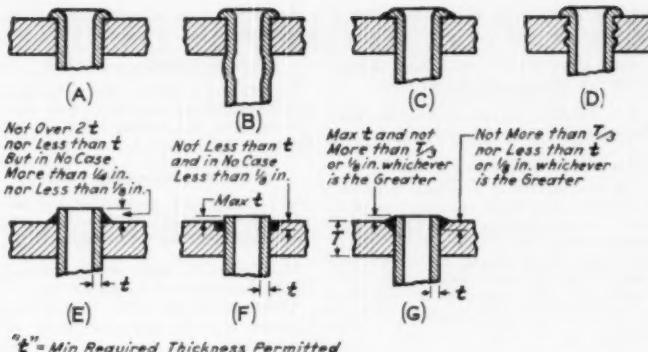

FIG. P-31 ACCEPTABLE FORMS OF TUBE ATTACHMENT ON FIRE-TUBE BOILERS
(1) The tube [ends extend not less than $\frac{1}{8}$ in., nor more than $\frac{1}{16}$ in., through the tube sheet:] SHEET HOLE MAY BE BEVELLED OR RECESS TO A DEPTH AT LEAST EQUAL TO THE THICKNESS OF THE TUBE. WHERE THE HOLE IS BEVELLED OR RECESS, THE PROJECTION OF THE TUBE BEYOND THE TUBE SHEET SHALL NOT EXCEED A DISTANCE EQUAL TO THE TUBE THICKNESS. THE DEPTH OF ANY BEVEL OR RECESS SHALL NOT BE LESS THAN THE TUBE THICKNESS NOR MORE THAN ONE-THIRD OF THE TUBE SHEET THICKNESS. [See FIG. P-31(f), (g).]
(2) [The throat of the seal weld is not less than $\frac{1}{16}$ in., nor more than $\frac{1}{16}$ in.] WHERE NO BEVEL OR RECESS IS EMPLOYED THE TUBE SHALL EXTEND BEYOND THE TUBE SHEET NOT LESS THAN A DISTANCE EQUAL TO THE TUBE THICKNESS, NOR MORE THAN TWICE THE TUBE THICKNESS. [See FIG. P-31(e).]